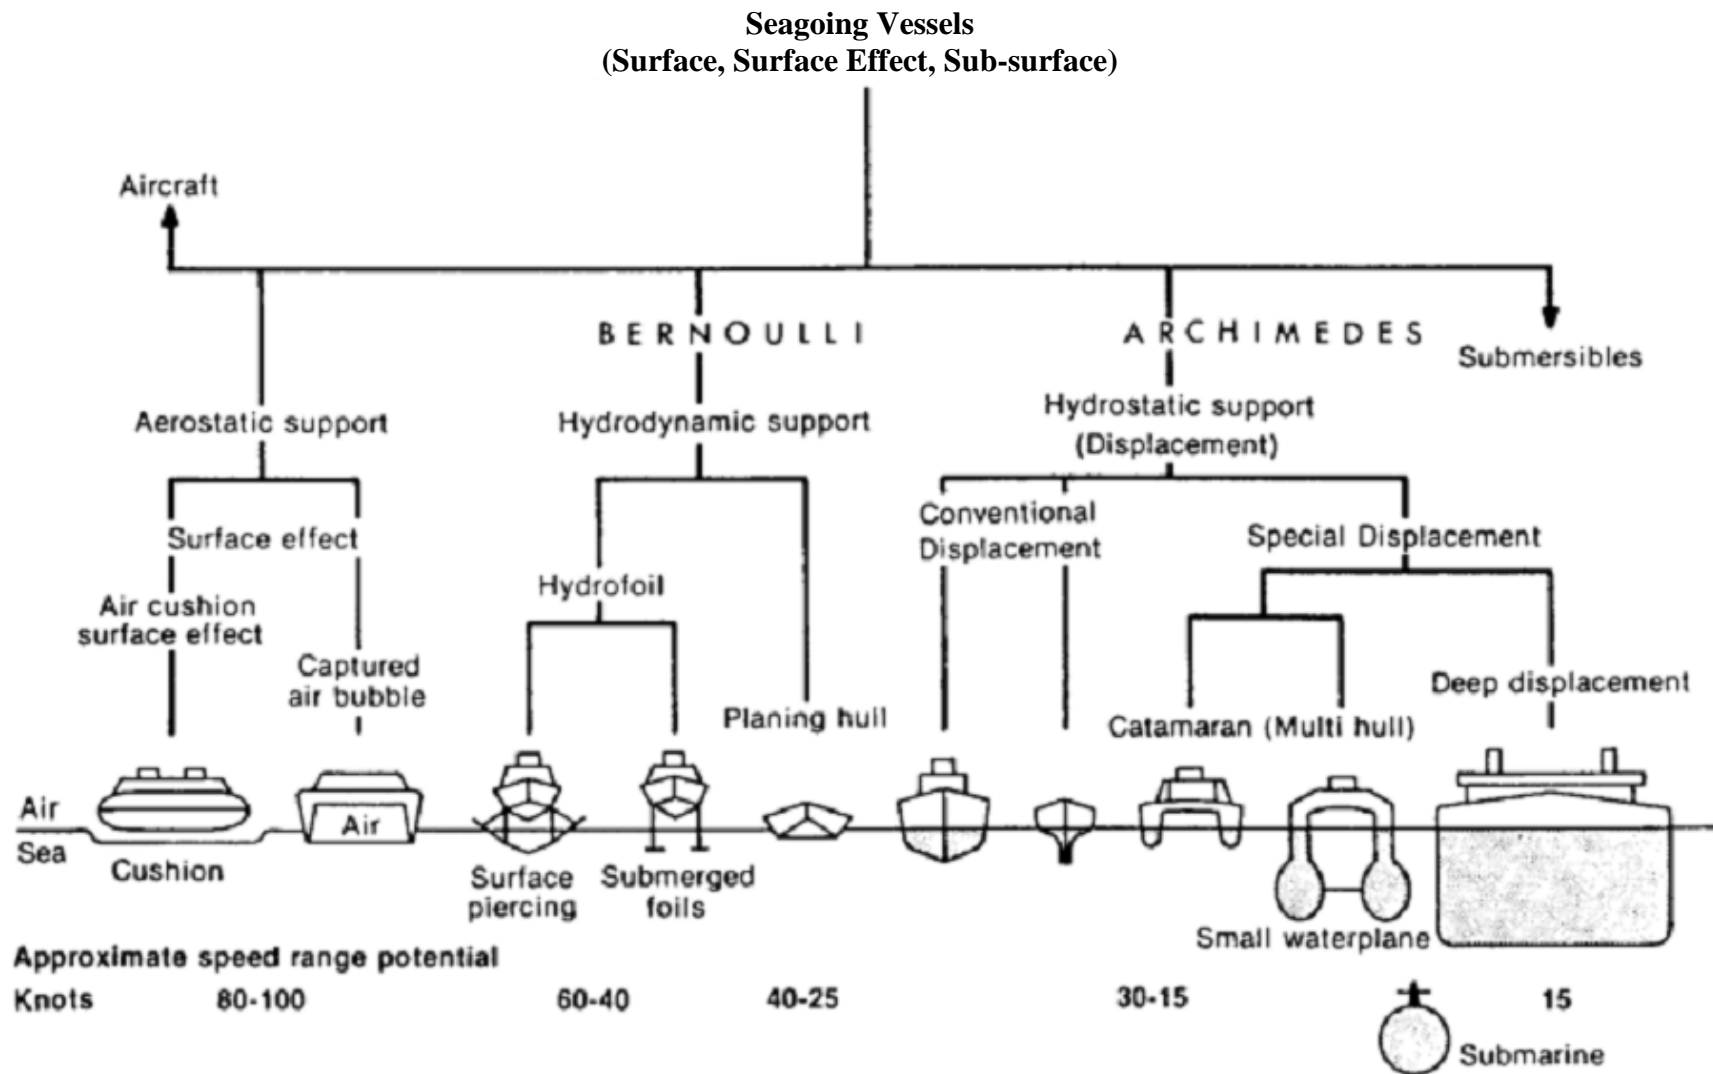

Figure 2.1 Categories of Seagoing Vessels According to Mode of Support
6. According to the reference material, the centroid of the operating waterplane is the point about which the ship will list and trim. This point is called the center of buoyancy (B) and it acts as a fulcrum or pivot point for a floating ship.
8. Using Figure 2.1 Categories of Seagoing Vessels According to Mode of Support, which of the following vessel type is capable of an approximate speed range of 40-60 knots?
Ships can also be classified by the means of physical support while in operation. Three broad classifications that are frequently used by naval architects are shown in Figure 2.1, reproduced from “Introduction to Naval Architecture” by Gillmer and Johnson.
A special displacement ship is the Small Waterplane Area Twin Hull (SWATH). Most of the underwater volume in the SWATH ship is concentrated well below the water's surface as shown in Figure 2.1. This gives them very good seakeeping characteristics. They also have a large open deck and are therefore useful in a variety of applications requiring stable platforms and a large expanse of deck space. SWATH vessels are currently utilized as cruise ships, ferries, research vessels, and towed array platforms. These vessels present the designer with structural problems differing from other ships, particularly with respect to transverse bending moments. The USNS Impeccable is the Navy's SWATH surveillance ship. Similar in behavior (but not technically a SWATH ship) is the trimaran LCS-2 *Independence* class ship.